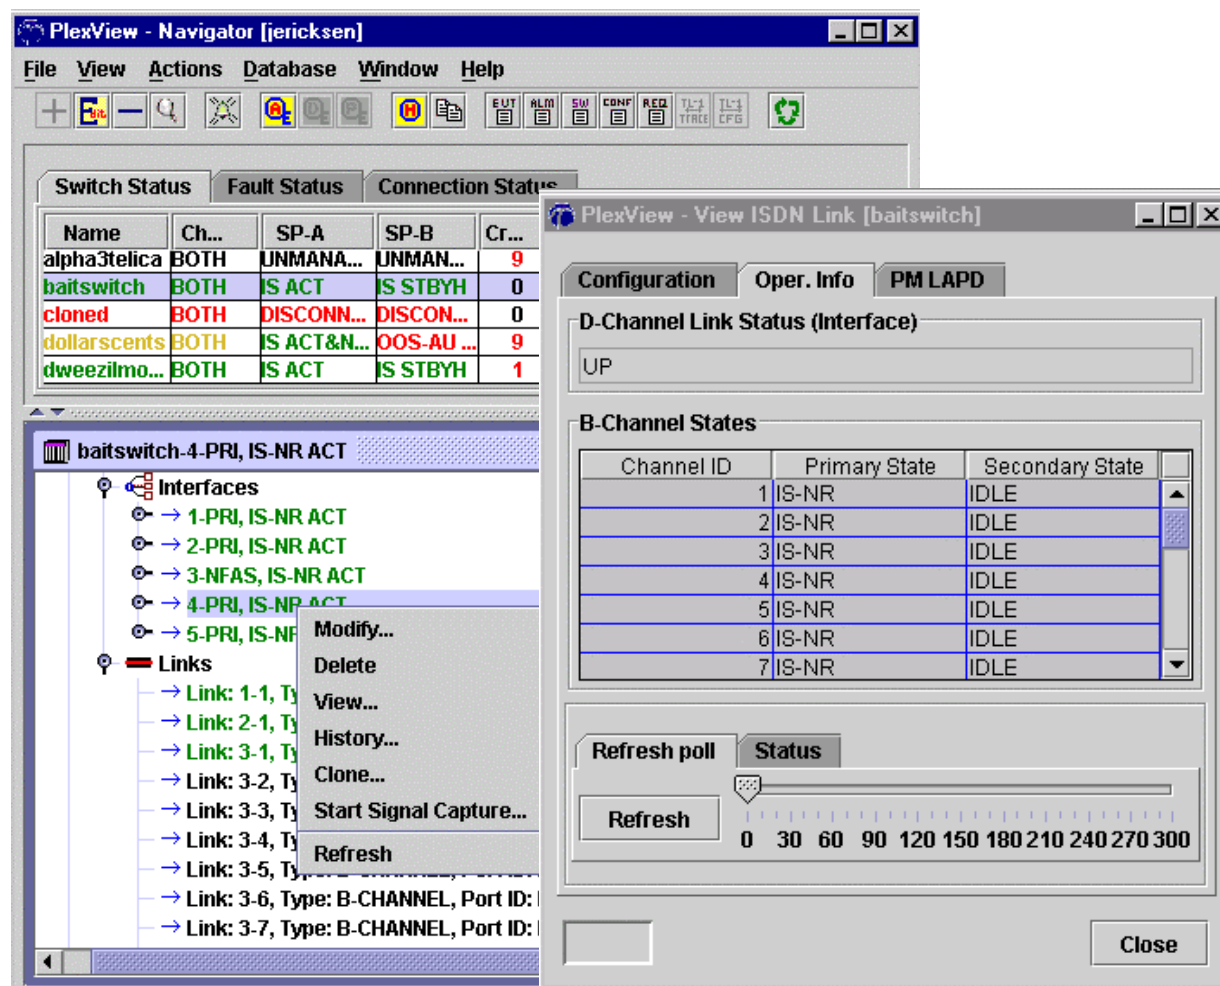

Figure 1. State of ISDN B Channels
5. Retrieve the current state of specified ISDN B channels on a link. Double-click the switch, *ISDN* and *Links*. Right-click the *link*, click *View* and then select the *Oper Info* tab at the top and click *Refresh* for the latest information. Refer to Figure 1. Reference **DLP-647** for detailed information for the command.